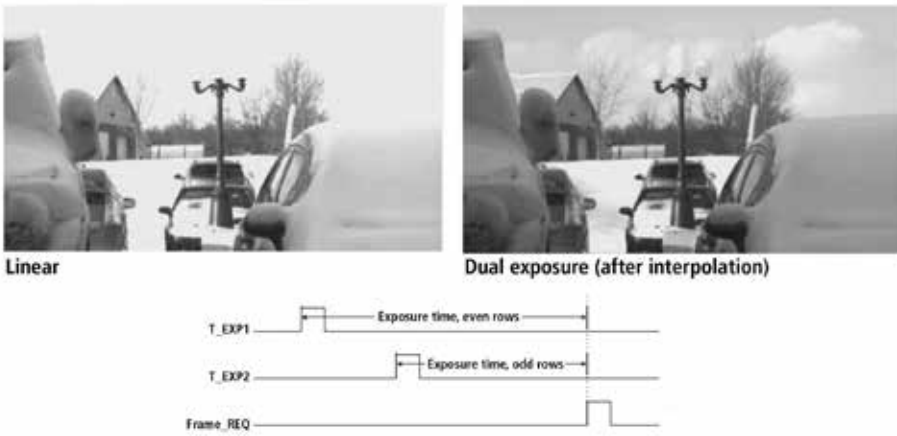

Figure 6: Different exposure times for odd and even lines achieve a higher dynamic range
- by equipping the sensor's odd and even rows with different sensitivities for light and dark and calculating an appropriate average value for all regions of the image (Figure 6), or